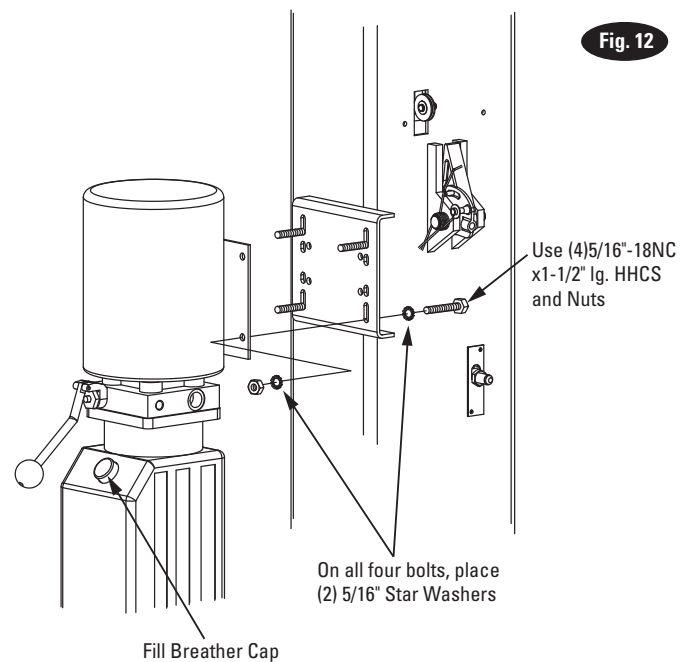

Fig. 12
**12. Power Unit:** First install a star washer onto all of the (4) 5/16"-18NC x 1-1/2" HHCS. This is very important for grounding. Put the (4) 5/16"-18NC x 1-1/2" HHCS thru holes in power unit bracket, Fig. 12. Mount unit with motor up to column bracket and install (4) 5/16" star washers and 5/16" Nuts. Install and hand tighten fitting to pump until O-ring is seated. Continue to tighten the locknut until the nut and washer bottom out against the pump manifold.